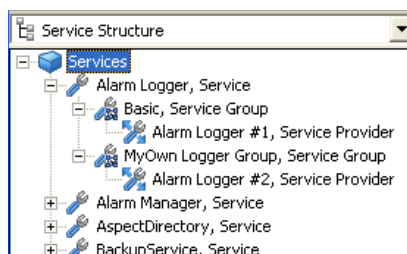

Figure 66. Logger Aspects in the Service Structure
3. In this example the default Logger Configuration aspect, delivered with the system, can be used for one printer, and an own for the other, refer to Figure 66.